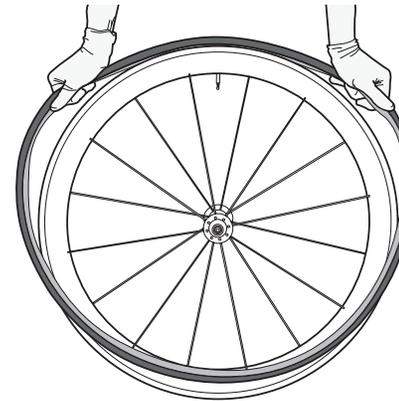

Figure 24.
6. With your hands at the right and left of the valve, grasp the tread and sidewall of the tire and press down as you work the tire onto the rim bead (Figure 24 and 25).